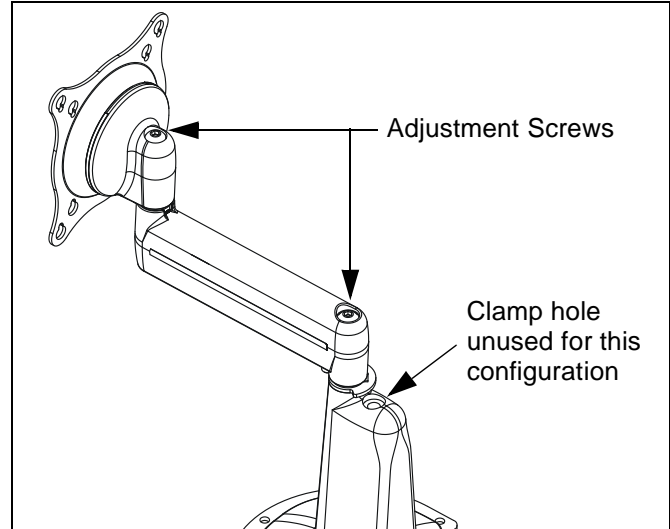

Figure 6: Swing Arm Adjustment
1. Using key (110), slightly loosen or tighten the adjustment screw(s) as necessary (See Figure 6).